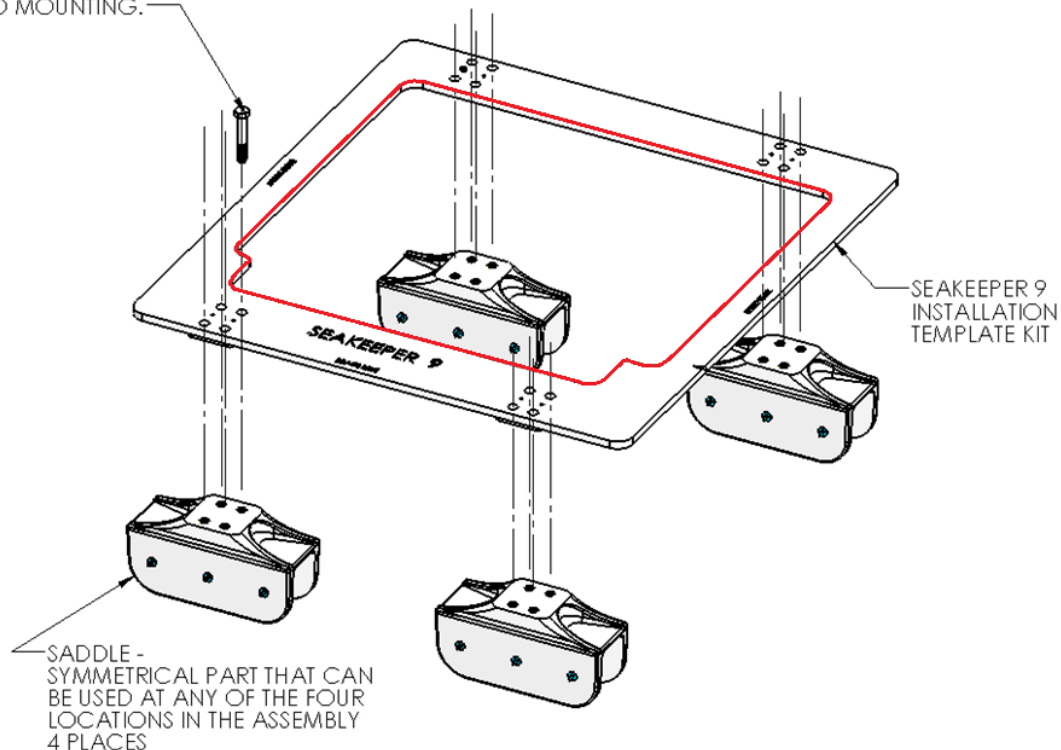
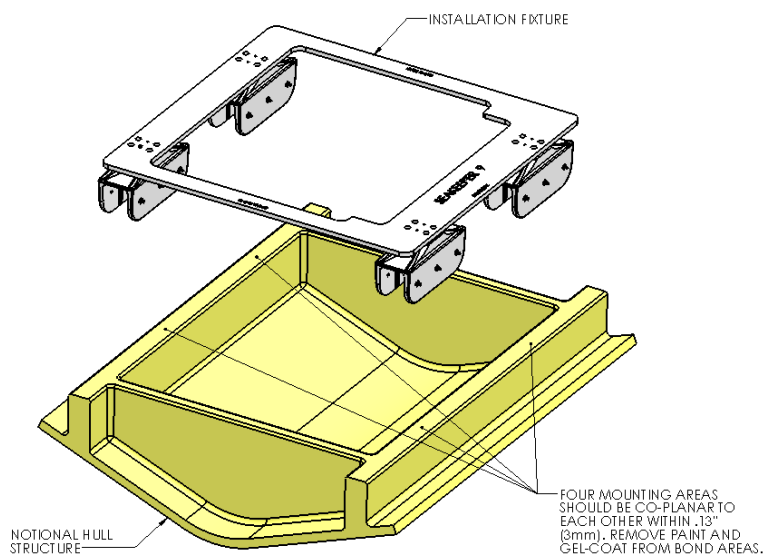
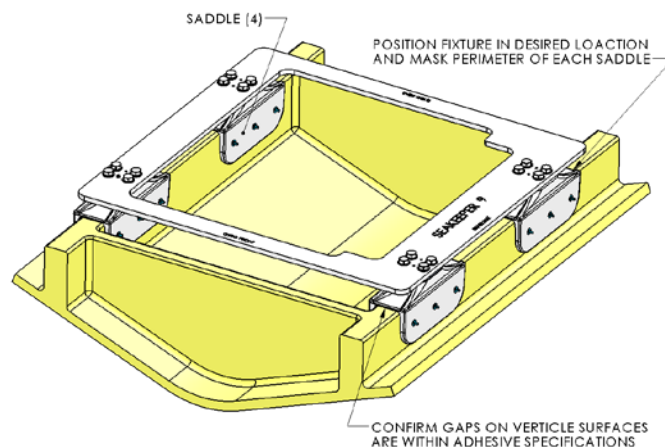

FIGURE 6 – EXPLODED VIEW OF SADDLE INSTALLATION FIXTURE
FIGURE 8 - INSTALLING FIXTURE ON HULL
FIGURE 9 - MASKING PERIMETER OF SADDLES
Seakeeper provides an installation fixture template, P/N 90253 that locates the saddles at the proper spacing both in the fore-aft direction and the port-starboard direction. See Figures 6, 7 & 8 below. Once assembled with the provided saddle fittings, the fixture can be used to check clearances and alignment of the hull structure. The fixture will allow the builder / installer to lay-up and adjust the foundation dimensions to create a low-clearance fit between the Seakeeper foundation saddles and the hull structure. Shear strength of the adhesive will be maximized if
- 1) Position installation fixture (Fig 8) on hull girders noting recommended clearances for maintenance from Figure 2. Check that the screws fastening the saddles to the installation fixture are tight (Fig 6).
- 2) Mask hull area (Fig 9) around foundation saddles for easy clean-up and to create outline of surface area to receive adhesive as (Fig 8). Insure that the bond gap is within the manufacturer's recommended thickness, or 3 mm if using Plexus MA590.
- 3) Raise fixture clear of foundation. Check all four mounting areas are co-planar to within .13" (3 mm) to each other, as well as parallel to the water line plane, as shown in Fig 8.
- 5) Remove any paint or gel-coat from bond surfaces so that adhesive will bond directly to laminate fibers and resin as shown in Figure 8.
- 1) Ensure that screws fastening saddles to the installation fixture are tight (Fig 6).